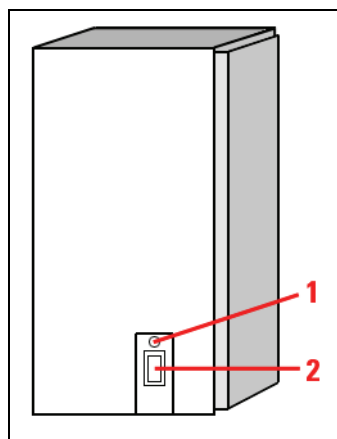

Figure 63: Microscope electronics box
5. Check whether the microscope is switched on. The microscope is operational once the readiness indicator (**Figure 63, item 1**) on the toggle switch is lit up. If the readiness indicator is not lit, activate the electronics box toggle switch (**Figure 63, item 2**).